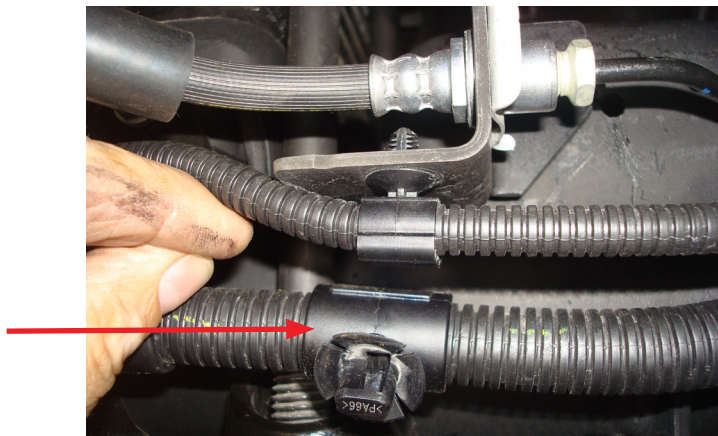

Fig. 8
4. Squeeze the two locking tabs on the large ABS wiring harness loom holder that is attached to the stock brake/ABS line bracket and pull out, disconnecting it from the bracket (Fig. 7 & Fig. 8). Detach the opposite side and leave loose for now.